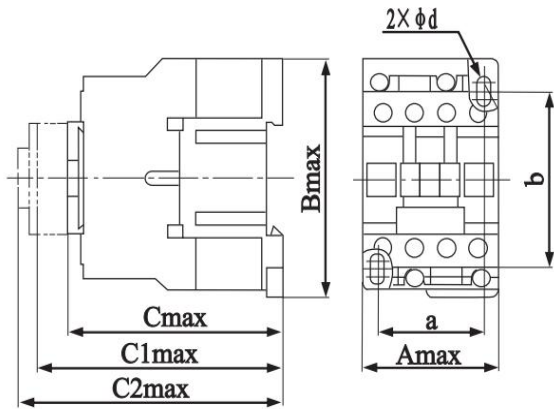
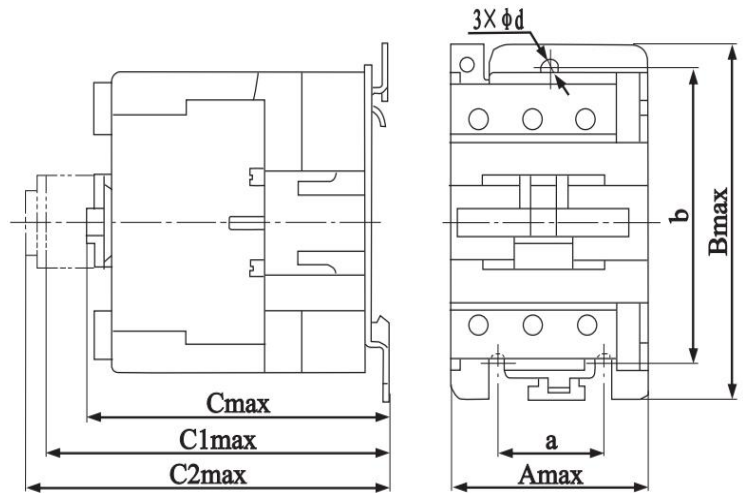

Fig. 2 CJX2-9~32
Fig. 3 CJX2-40~95
- See Figure 2, Figure 3 and Table 2 for Outline and Installation Dimensions.